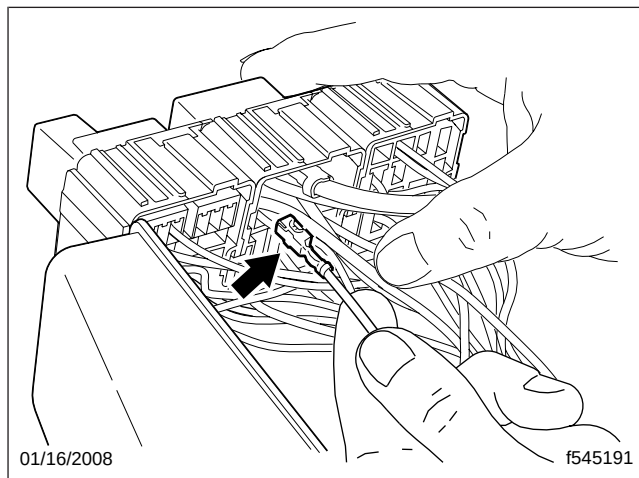

Fig. 6, Inserting Circuits in to the PDM
1. Insert each circuit into the bottom of the PDM block assembly. If the terminal is backward, the lock will not seat into place. See Fig. 6.